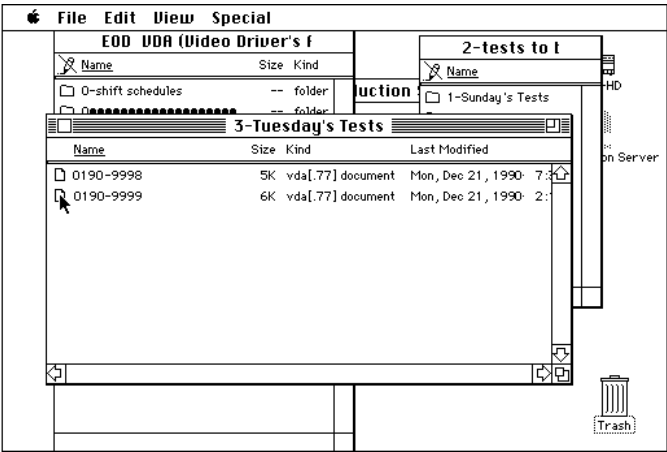

Figure 10
- 11.3 Position the mouse pointer in daily tests window on the appropriate test number and double click to open it . See Figure 10. If the test number cannot be located, notify the VT senior technician.